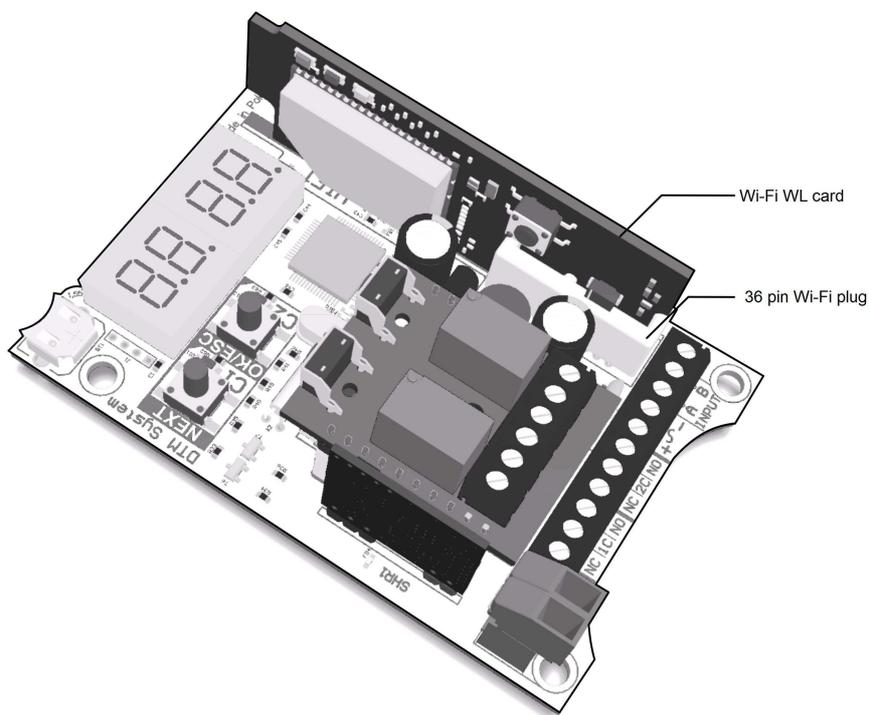

Fig. 3 Proper installation of WL card in the Flex868 receiver.
- **Step 9:** Install WL card on the FLEX868 receiver board in 36 pin plug with the description "Wi-Fi" (fig. 3).